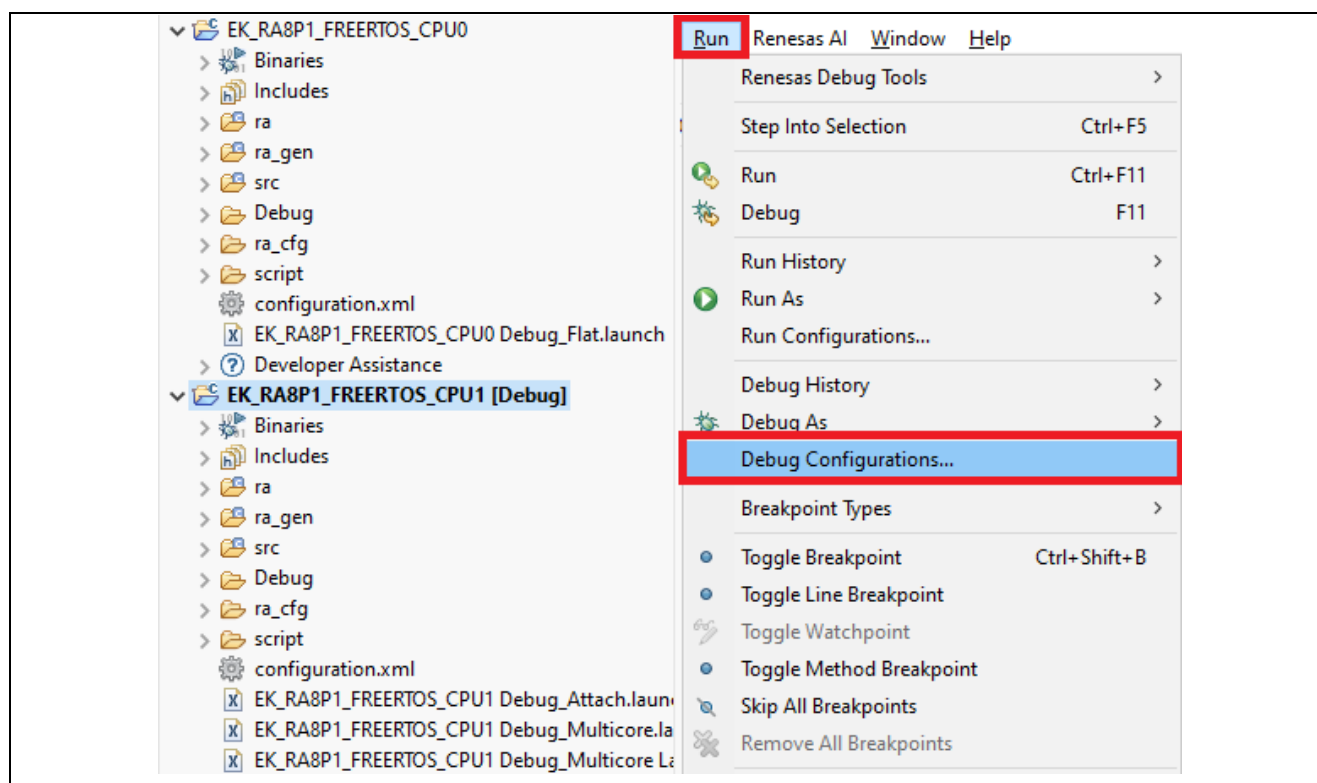

Figure 68. Example of Open Debug Configuration in FreeRTOS Example
1. Open Debug Configurations as shown in Figure 68.